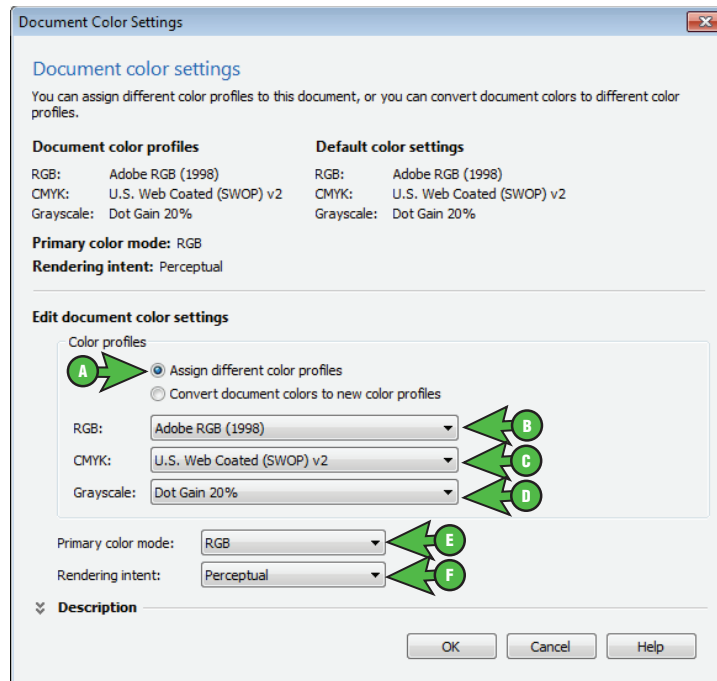

FIGURE 6
6.) The Document Color Settings window should now be open. Match your settings to the ones shown below: (see FIGURE 6)